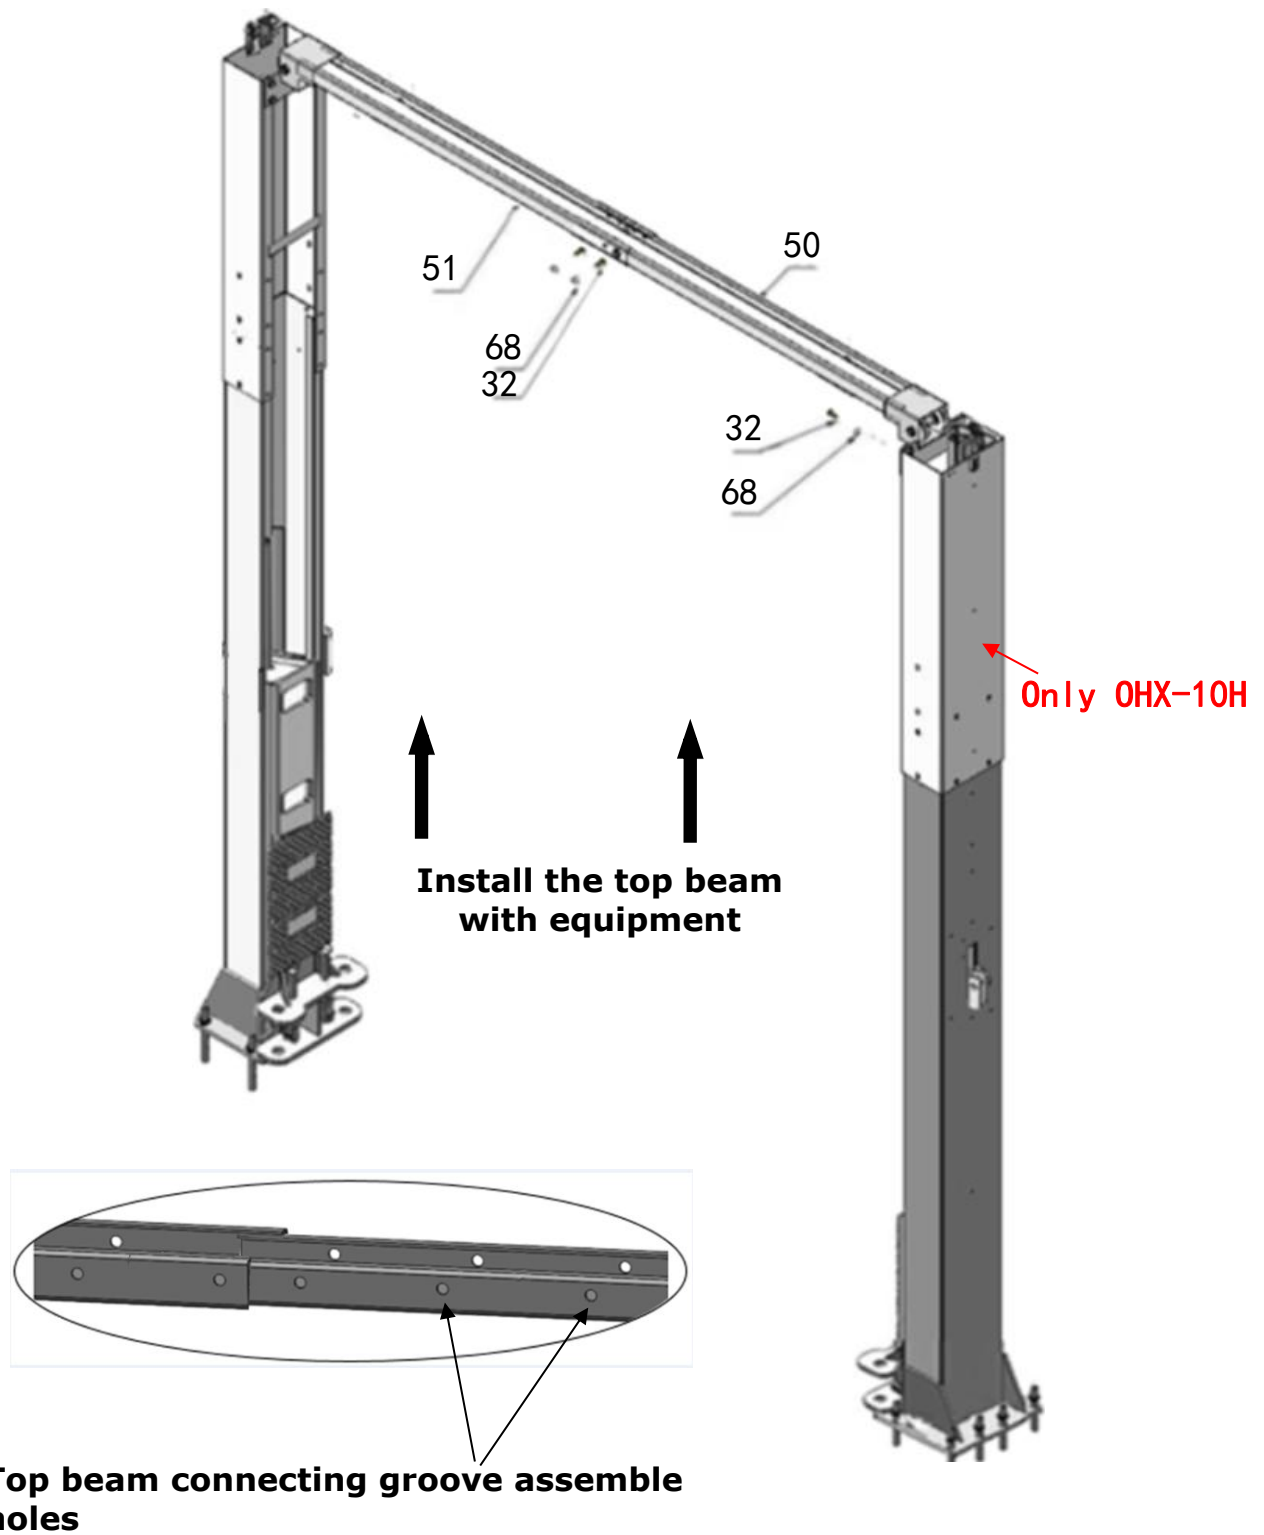

Fig.24
H. Install overhead top beam (See Fig. 24).